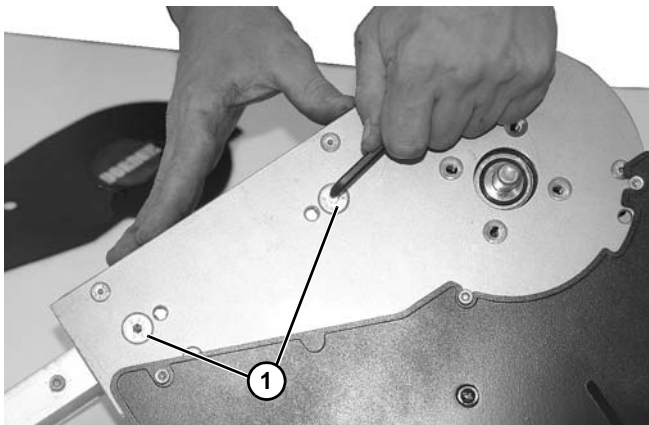

Figure 127
5. Remove two screws (**Figure 127, item 1**) on side of drive spindle.